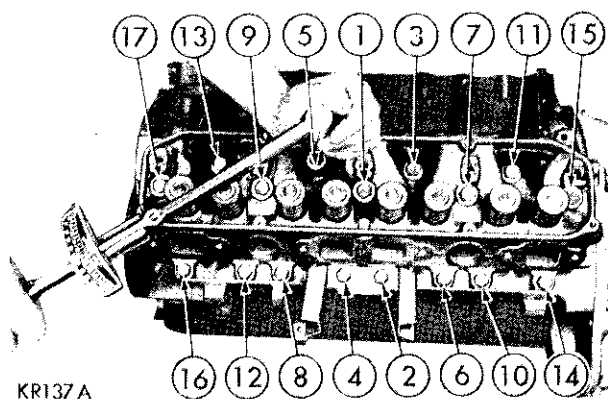
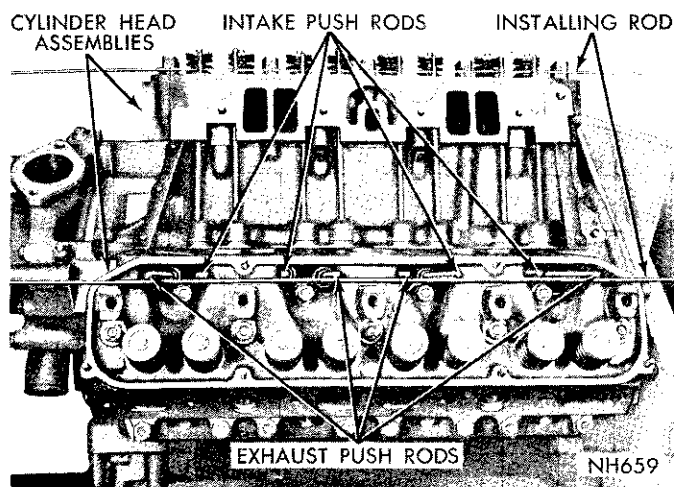

Fig. 6—Cylinder Head Tightening Sequence
Fig. 7—Push Rods Installed
(3) Coat new gaskets lightly with a suitable sealer, Chrysler Number 1057794 or equivalent. Install gaskets and cylinder heads.
(4) Install cylinder head bolts. Starting at top center, tighten all cylinder head bolts to 40 foot-pounds in sequence (Fig. 6). Repeat the procedure, tightening all head bolts to 70 foot-pounds.
(5) Inspect push rods and replace any worn or bent rods.
(6) Install push rods in the tappets maintaining alignment, using rod (Fig. 7).
(7) Install rocker arm and shaft assembly starting each push rod into its respective rocker arm socket